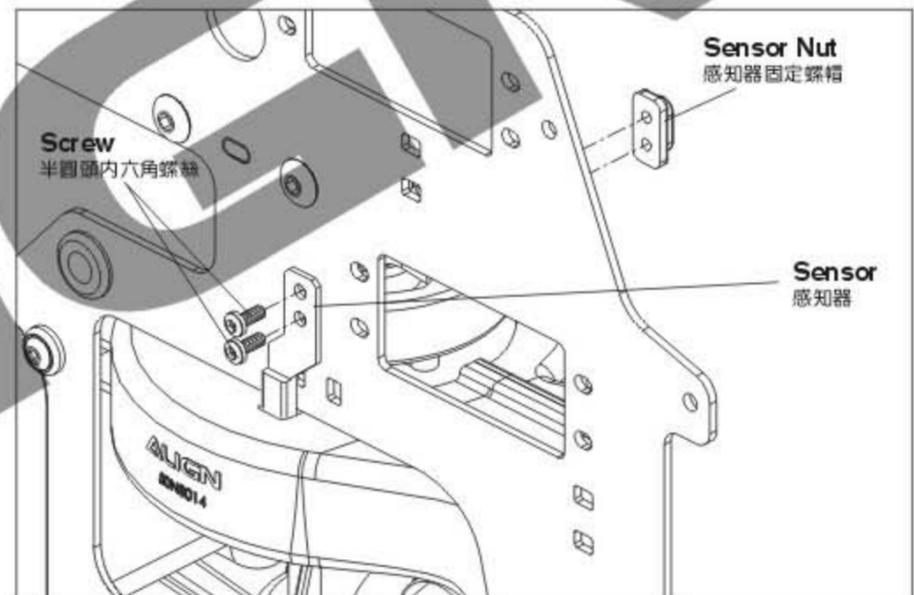

Fig. 2
2. See Fig. 2, install the sensor on the main frame, and check if any interference caused by the engine fan.